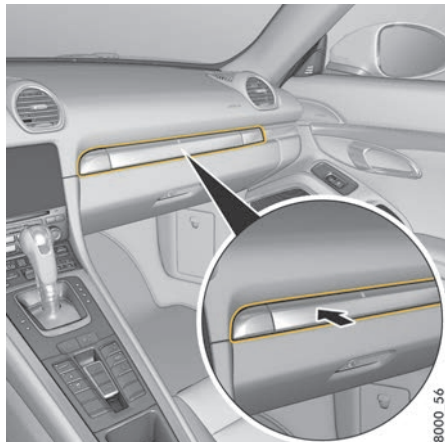

Fig. 71: Cupholder
1. Press the cupholder panel (Fig. 71).